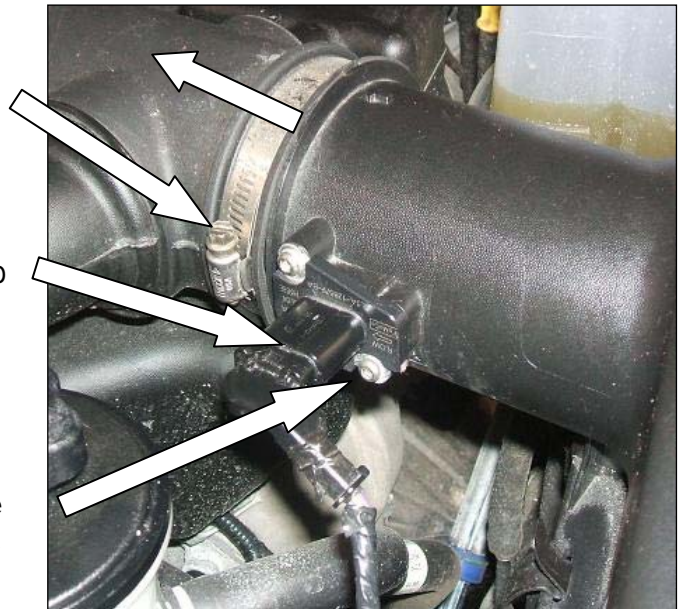

Figure 1
5. Using the supplied #20 Torx Bit, remove two (2) screws and the MAF sensor from the air cleaner lid. **Do not reuse these screws.** Refer to Figure 1 for steps 3, 4 & 5.